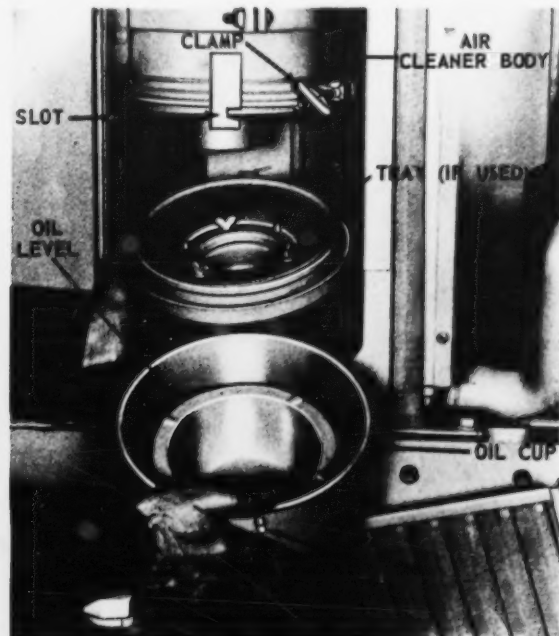

Fig. 10—Removing Oil Cup From Air Cleaner
1. Loosen oil cup and remove from filter (Fig. 10).